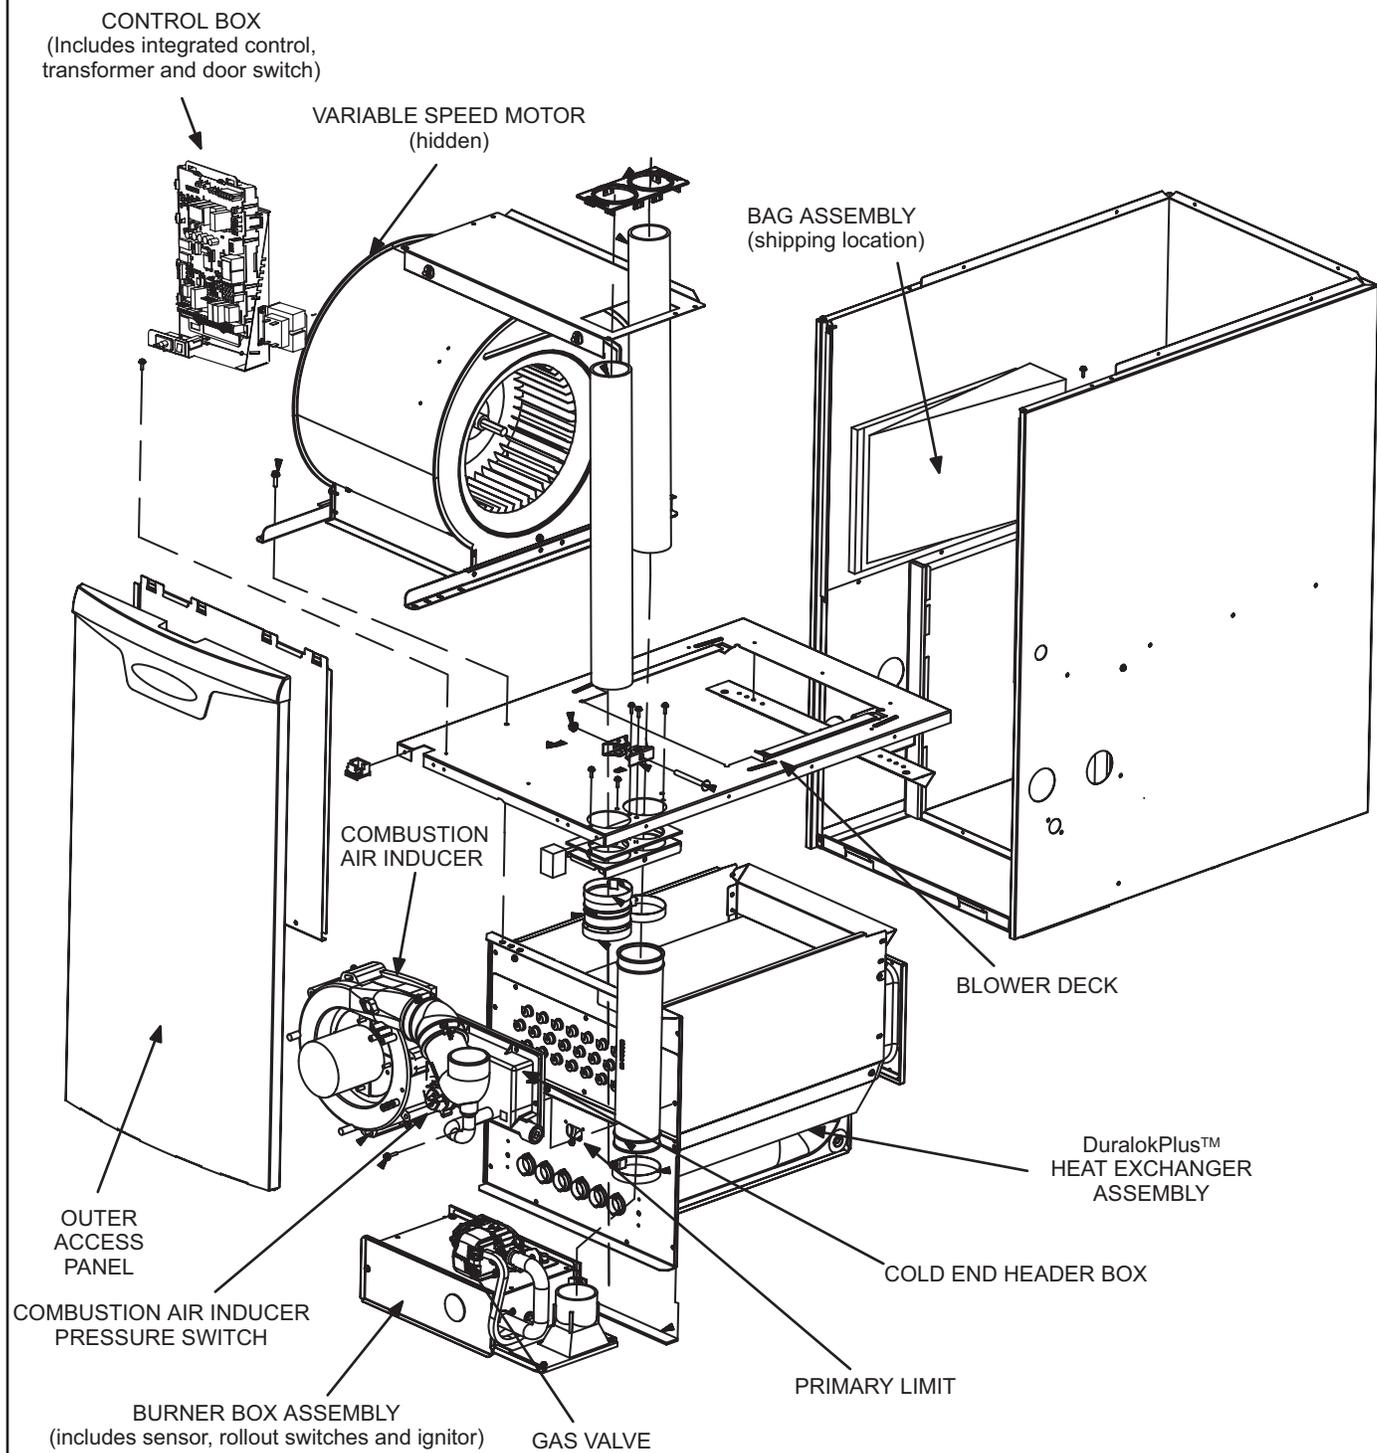
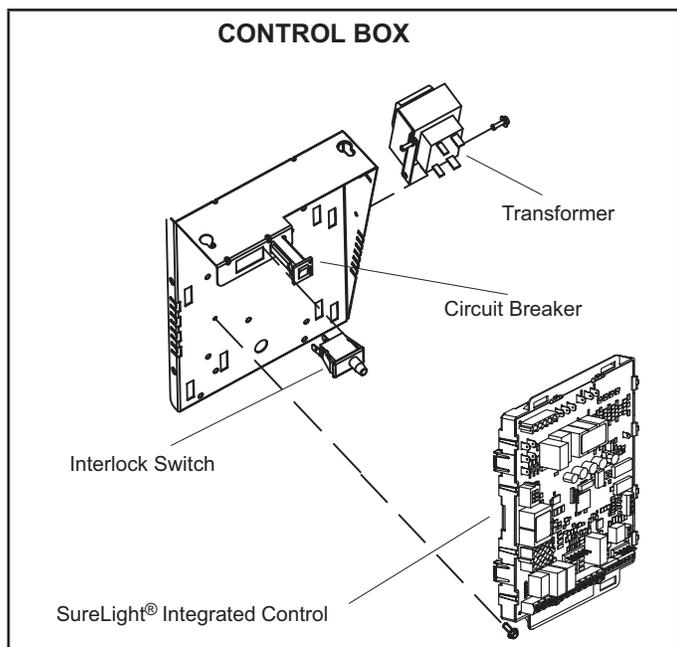

FIGURE 1
FIGURE 2
EL297DFV(X) unit components are shown in FIGURE 1. The gas valve, combustion air inducer and burners can be accessed by removing the access panel. Electrical components are in the control box (FIGURE 2) found in the blower section.